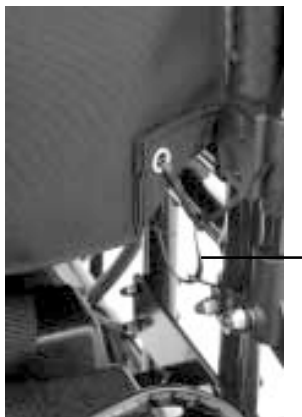

Figure 8. Tie-Wrap Installation
10. Install two tie-wraps to secure the seatback. See figure 8.